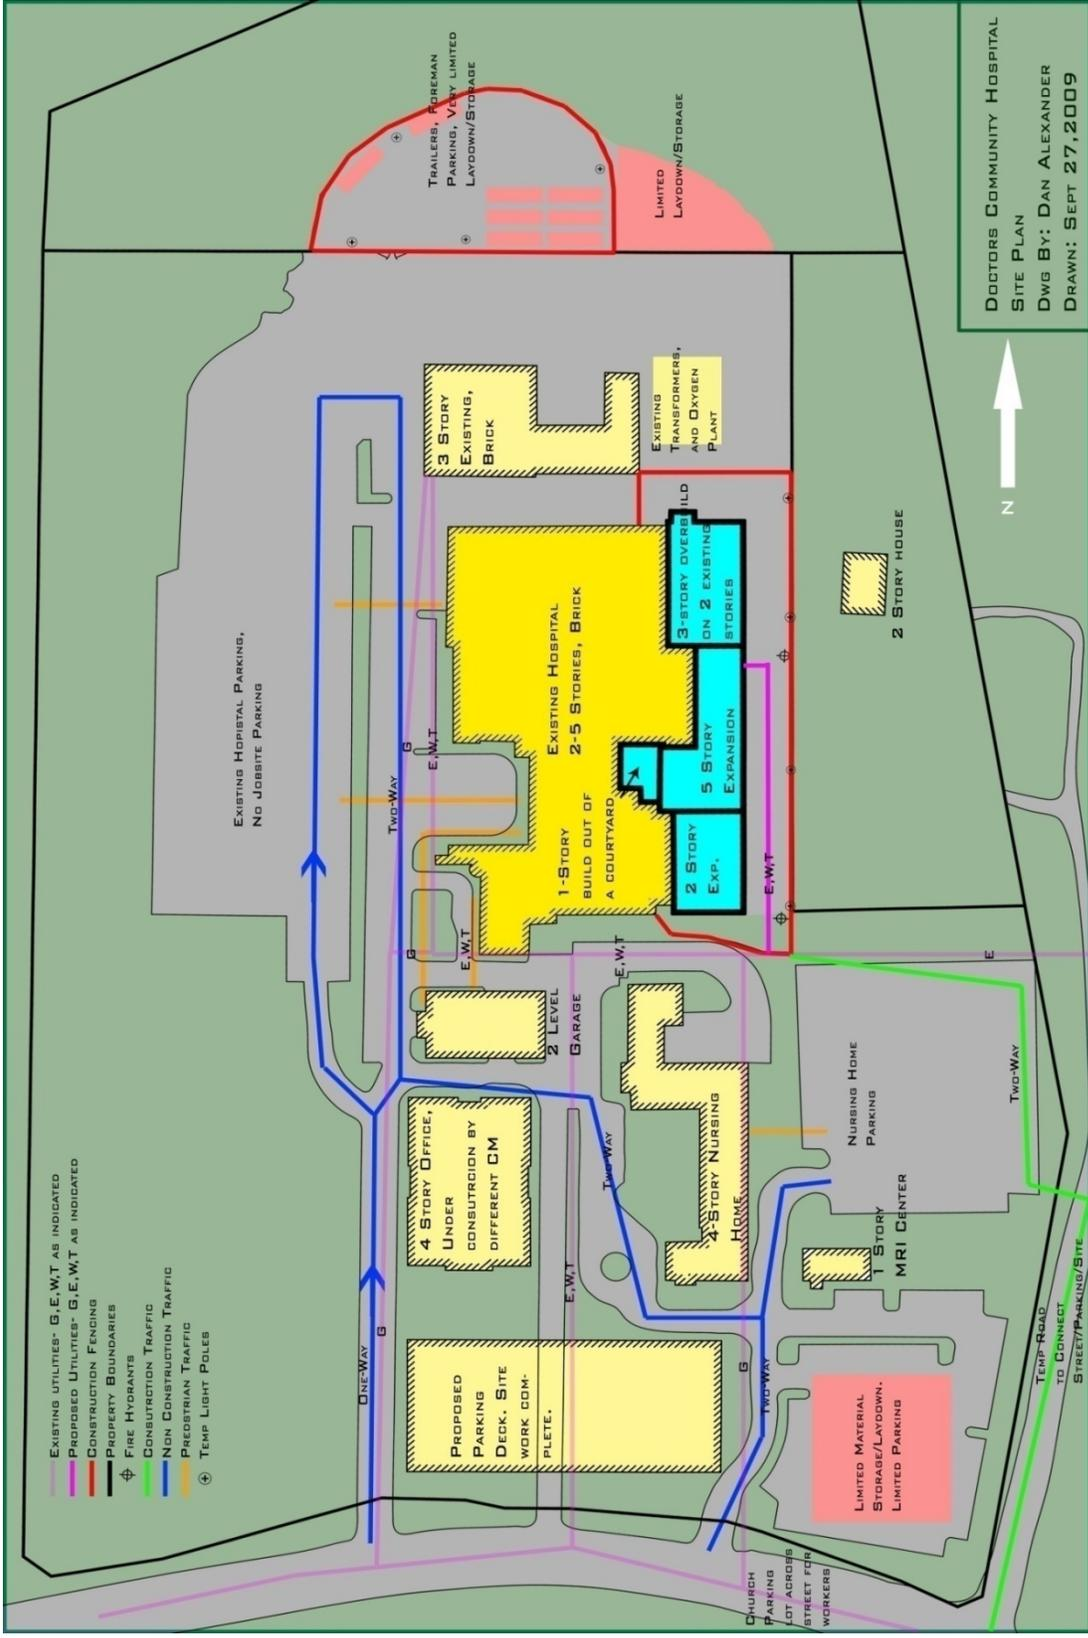

FIGURE 4-DCH SITE PLAN
1. They are not building on an open site. As seen in Figure 4-DCH Site Plan, there are 6 other structures, including the one they are expanding, already on site. Structures 7 and 8 are currently under way on the south end of the site. One is a new parking deck; the other is a new Medical Office Building. All of these structures take up space that could be used for lay down, but is clearly not available.
3. Contractors are competing for space with the other construction site on campus. Both sites are in need of lay down and material storage space, which is a finite quantity. The apparent "green space" in Figure 4-DCH Site Plan is unfortunately not open field, but rather heavily forested areas that they cannot clear to create more space due to zoning regulations.